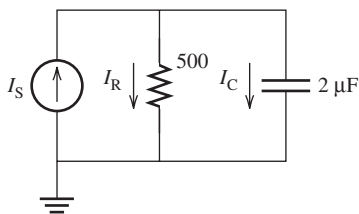

FIGURE P6.39 Circuit for Problem 6.39.
6.39 (A)* If $i_s(t) = 2 \cos(200t)$ A in Figure P6.39, find the steady-state expressions for I_R and I_C .
- 6.73** (B) If $i_S(t) = 2 \cos(200t)$ in Figure P6.39, use PSpice to plot the current, I_R and I_C .